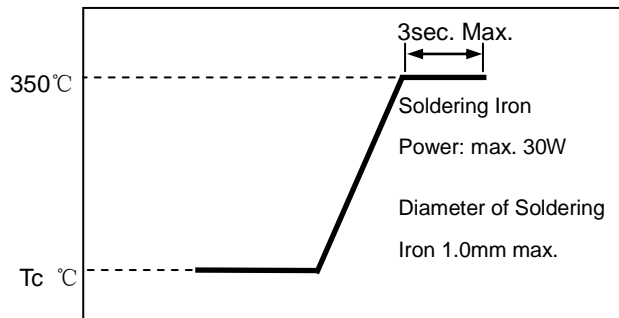

Fig. 12.2-1
- Please refer to **Fig. 12.2-1**.